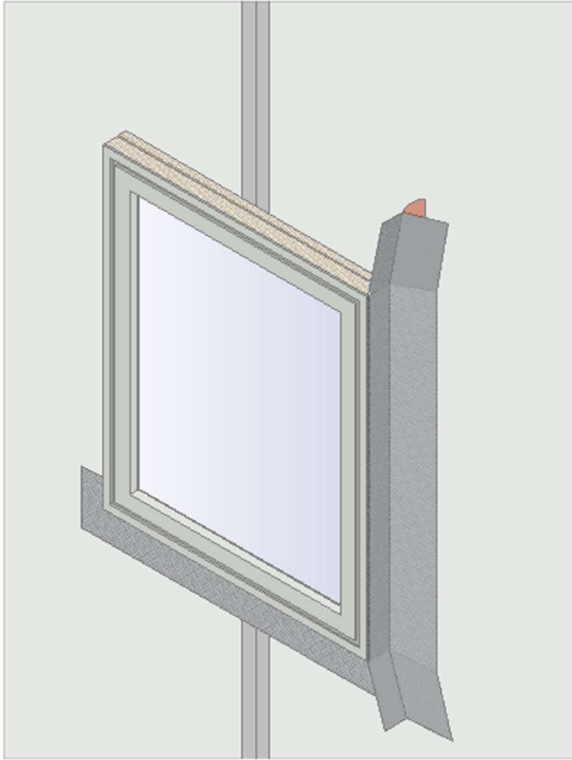

Figure 8
- Peel back the release liner on one long edge by up to 50 mm and offer up the membrane and smooth on to the frame in a straight line, gently pressing the membrane into the correct position as previously described (Figure 8).